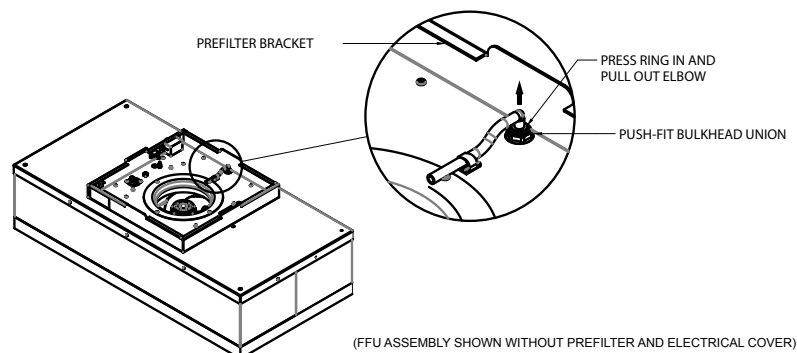

Figure 8: Challenge Port Detail
Step 6. Using a low torque setting, remove challenge port tubing, if applicable. (See Figure 8.)